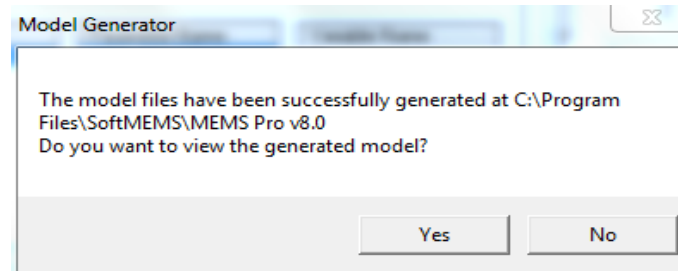

Figure 91: C-Model successfully generated
- ☑ Click the **Ok** button. The following message will appear (Figure 91).